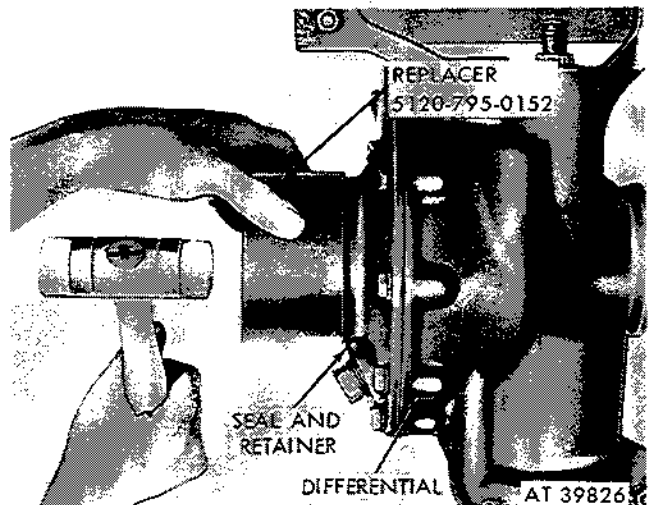

Figure 2-307. Install seal and retainer using replacer (FSN-5120-795-0152).
b. Installation. Lubricate side gear flange seal lips with grease (GAA) and coat seating surface with compound sealer (FSN 8030-656-1426). Install side gear flange seal and retainer in differential, using replacer (5120-795-0152) as shown in figure 2-307. Install side gear flange in differential as instructed in paragraph 2-135.